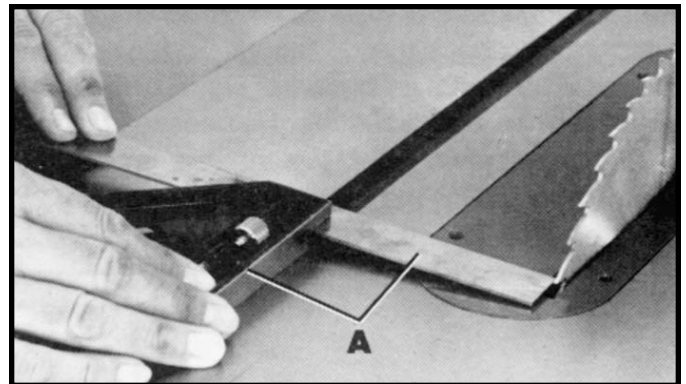

Fig. 44
2. Place a combination square (A) Fig. 44, on the table with one edge of the square in the miter gage slot, as shown, and adjust the square so the rule just touches one of the teeth on the saw blade at the forward position, as shown in Fig. 44. Lock the square in this position.